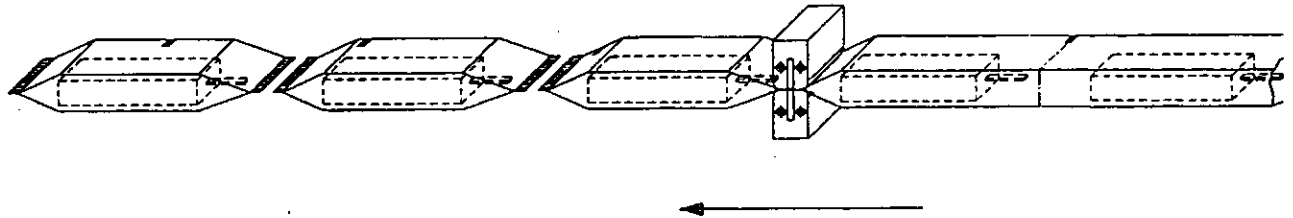
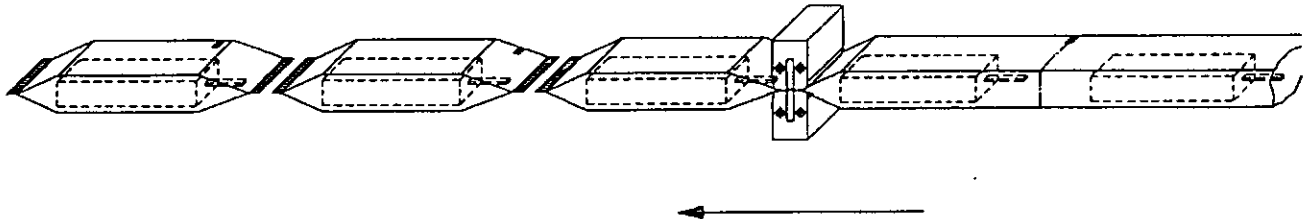

Fig. 8
Fig.9.
- Check the photo marks' travelling. The mark **must only** travel forwards. The travelling may surpass 5 mm from bag to bag. See Fig. 8 & Fig. 9.
The bag length is too long - the cross sealing rollers are running too quickly, see Fig.8.
The bag length setting is **now correct**, -the cross sealing rollers are running with correct speed, see Fig.8.
The bag length is too short - the cross sealing rollers are running too slowly, see Fig. 9.